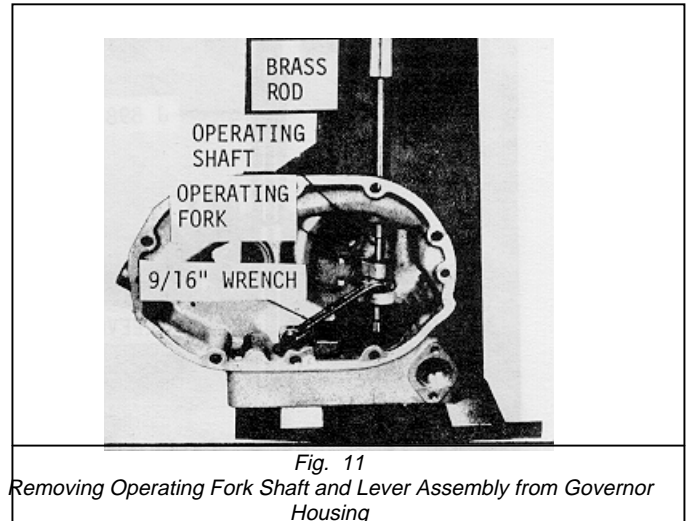

Fig. 11
- (g) With the housing still supported on the bed of the press, place a 9/16" open end wrench under the operating fork as shown in Fig. 11. Place a brass rod on the end of the shaft and press the fork off of the operating shaft. Remove the shaft, operating lever and bearing as